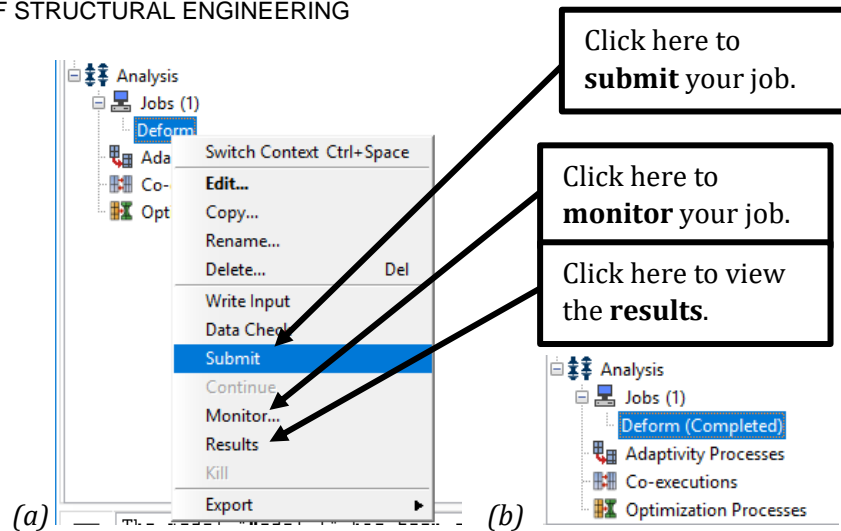

Figure 2-28 – (a) The menu for the Deform job and (b) status when the analysis has completed.
The menu for the job **Deform** appears, as shown in Figure 2-28(a).
The icon for the job will change to indicate the status of the job in parenthesis after the job name. As the job runs the status **Running** will be shown in the Model Tree. When the job completes successfully, the status will change to **Completed**, as shown in Figure 2-28(b). Notice that Abaqus has generated many new files to your work directory. The **.odb** file contains the results from your analysis.
6. In the menu for the job **Deform**, Figure 2-28(a), click on **Monitor** to access the **Monitor** dialog box. Here the analysis status may be checked for **Errors** and **Warnings**. **This should be checked for every analysis.** The same information can be found in the **.msg** and **.sta** files in your working directory.
1. Right-click on your job-file in the **Model Tree** and choose **Results**. See Figure 2-28.